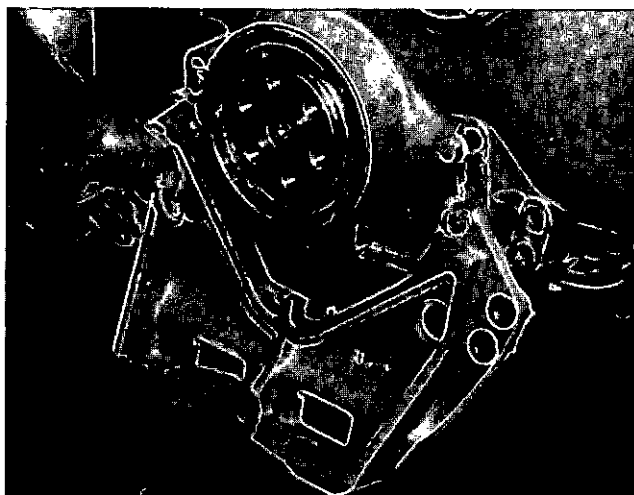

Fig. 0-47. Remove The Front Engine Support.
2. Remove the front engine support, Fig. 0-47.